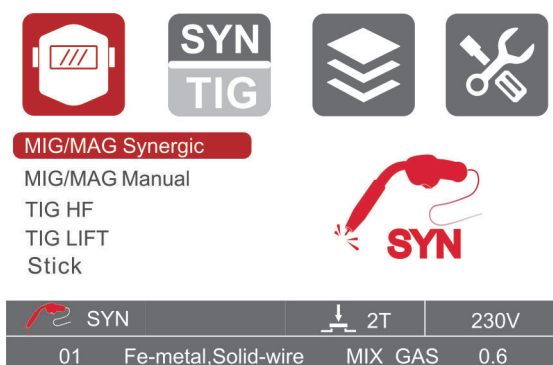

Fig. 1
- 2) In the function selection interface, rotate L Knob to select the MIG/MAG Manual welding method and press down it for confirmation as shown in Fig. 1;
- 2) In the function selection interface, rotate L Knob to select the Stick welding method and press it for confirmation. Refer to Fig. 1;
- 2) In the function selection interface, rotate L Knob to select the TIG HF welding method and press it for confirmation. Refer to Fig. 1;